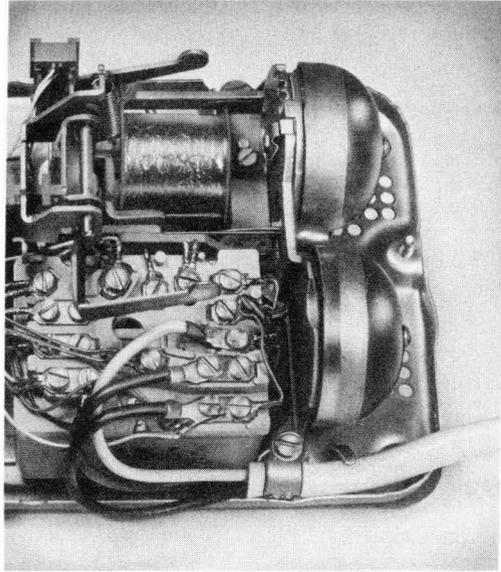

Fig. 5.1—Securing C Weatherproof Cord in Telephone Set
- Cord, Weatherproof, C (used with RV and boats, Fig. 5.1).